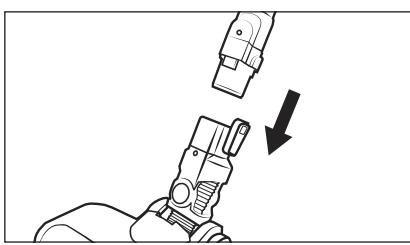

Fig. 2
- Push the suction pipe 24 into the floor brush 22 until it audibly clicks into place (see Fig. 2).